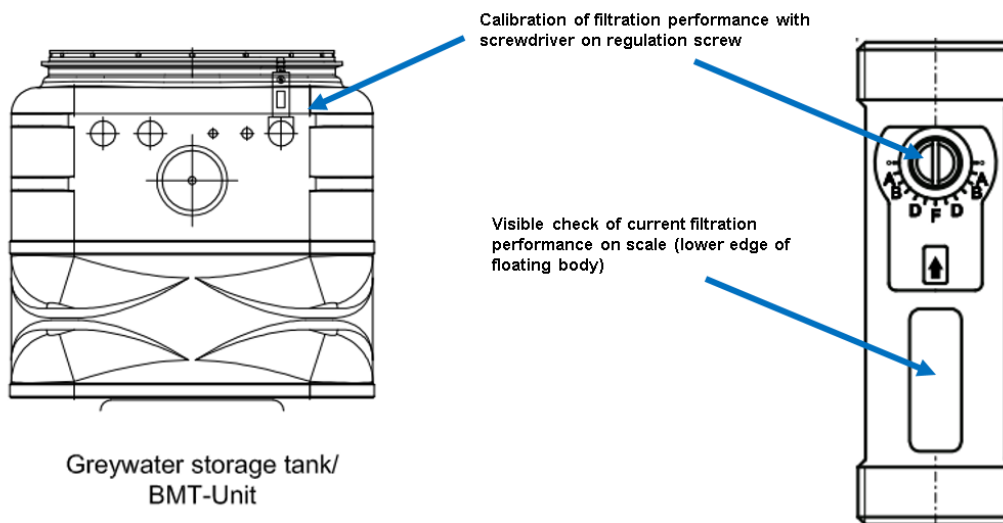

Figure 25: Set-up of filtration performance at Tacosetter
- I. Manual switch into automatic mode by pressing the function key (A) at the control unit.
- III. One-off manual set-up of the filtration flow rate on the Tacosetter at each single BMT-unit according to the predefined maximum filtrate flowrate (see sticker attached directly to the Tacosetter). Control the filtration flowrate by visible check at the Taccosetter. Please see Figure 25.